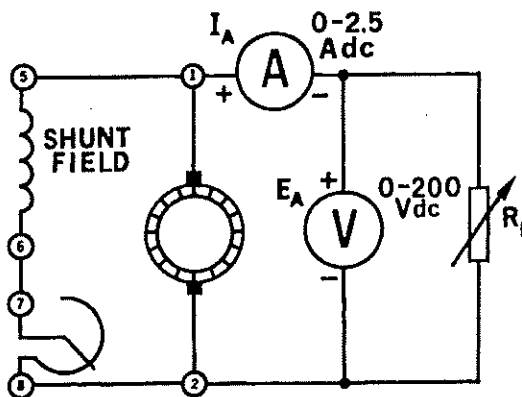

Figure 8-2.
- 3. a. Using your DC Motor/Generator, DC Voltmeter/Ammeter and Resistive Load, connect the circuit shown in Figure 8-2.